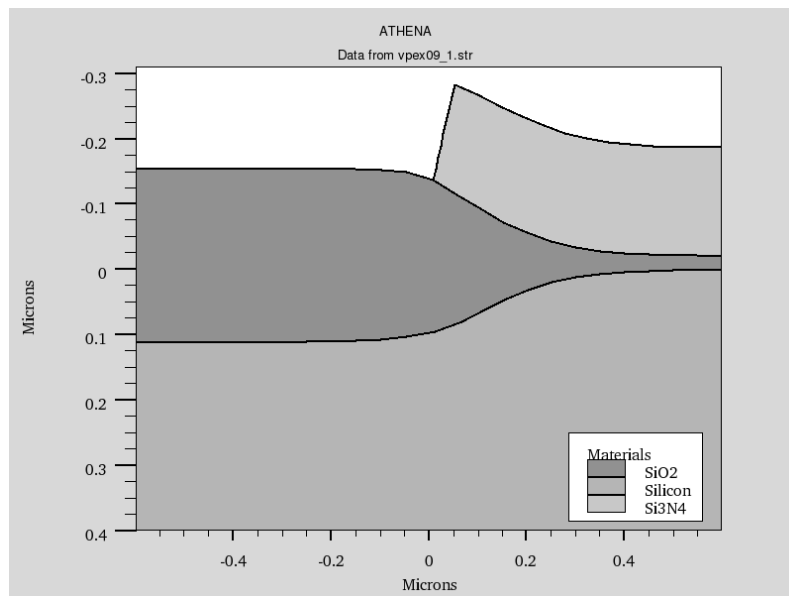

Figure 5(a)
5. (a) Refer to Figure 5(a), explain what do you understand about this modeling image in CMOS fabrication technique. In your explanation, you need to relate with LOCOS process (Local Oxidation of Silicon)